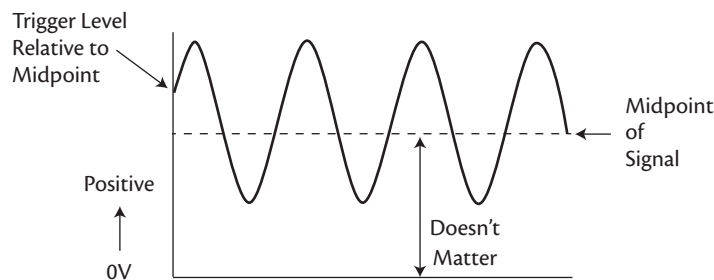

FIGURE 6-11 AC-coupled triggering.
- *AC*. The trigger will lock to a voltage above or below the midpoint of the signal, regardless of its voltage relative to ground. It works just like the AC coupling option on the vertical amplifiers, placing a coupling capacitor in line to block the signal's DC component. You can use AC trigger coupling even when you choose DC coupling for the vertical channel. You'll use AC triggering most of the time because it makes triggering easy as you look at various signals with different DC components (Figure 6-11).